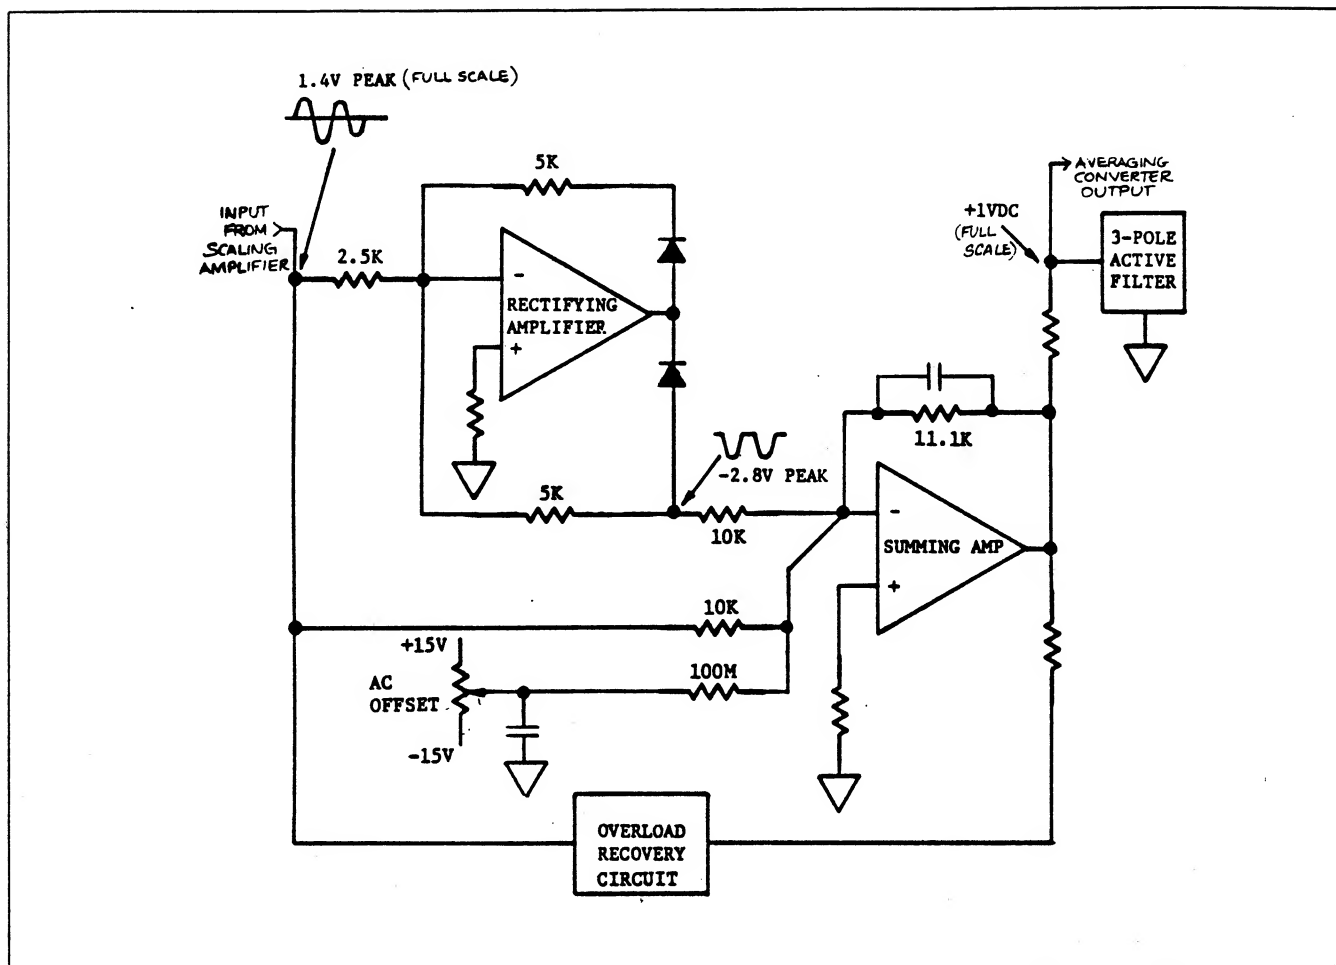

Figure 5.22 - Averaging Converter
5.3.5.9.4 Averaging Converter. The Averaging Converter (Figure 5.22) receives the scaled AC signal from the Scaling Amplifier and applies it to the active rectifier stage. The active rectifier circuitry (Q1 through Q6, Q9 through Q11, AR3, CR2 and CR3) is configured as an operational amplifier with two polarity selective feedback paths. One feedback path (through CR3) conducts only with a negative amplifier output and the other path (through CR2) conducts only with a positive amplifier output. The voltage developed across the negative conducting leg is applied to the input of the summing amplifier circuitry.